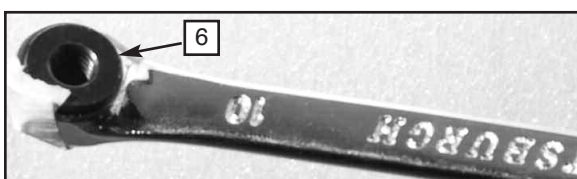

Figure 9
10. Tape one Nut (6) into the box end of your 10mm wrench. (Tape) Figure 9